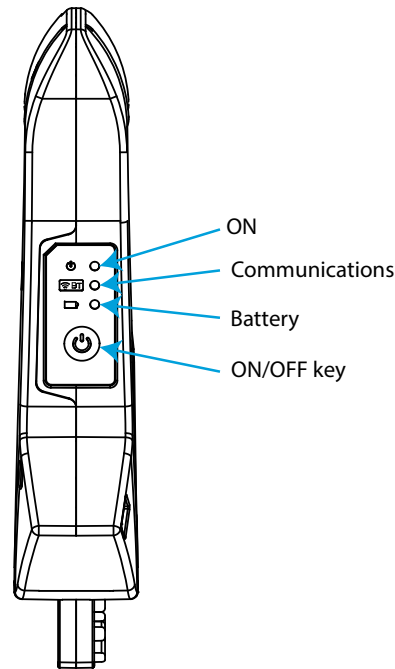

Figure 3: Key and LED indicators.
**MyClamp** has 1 key, **Figure 3**, to switch the device on/off. And 3 indicator LEDs.